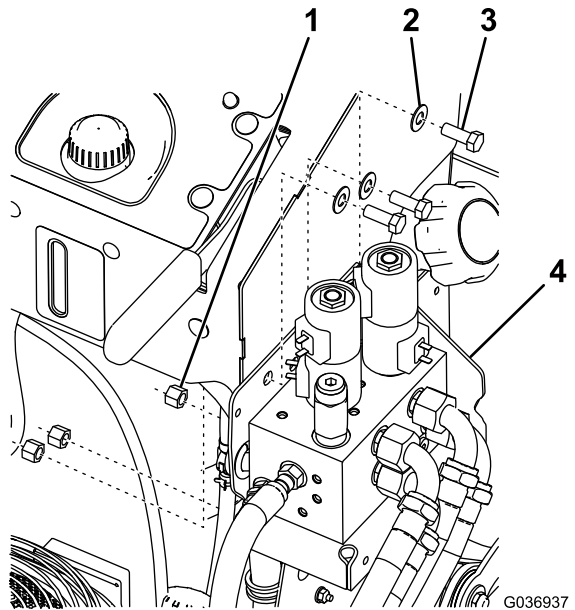

Figure 6
3. Mount the hydraulic manifold assembly to the machine using 3 hex-head bolts (3/8 inch), 3 flat washers (3/8 inch), and 3 nylon locknuts (3/8 inch) as shown in Figure 6.